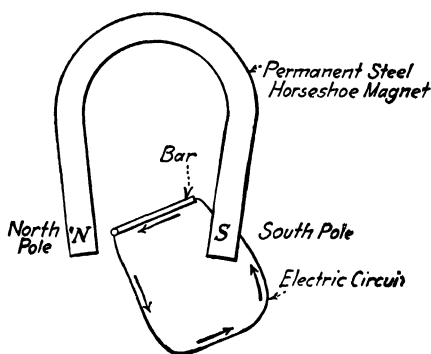
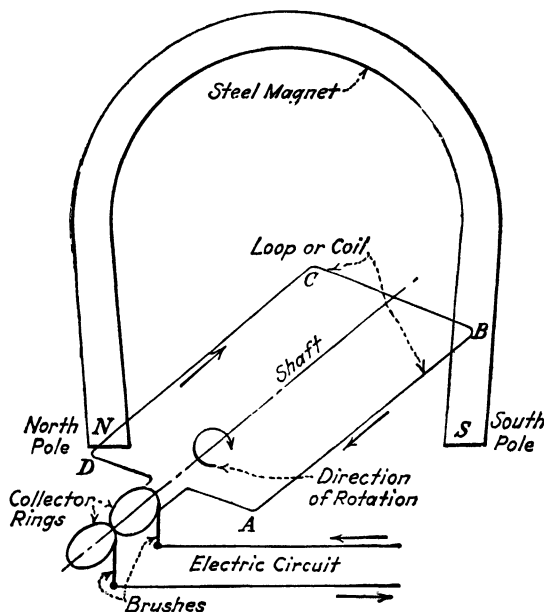

FIG. 1-31. Elements of an alternating-current generator.
FIG. 1-32. Elementary alternating-current generator.
**Elementary Type.** The simplest arrangement for generating such an alternating pressure is shown in Fig. 1-31. It consists of nothing more than a steel horseshoe magnet and a bar of copper to the ends of which is attached a wire, forming the circuit shown. When this bar is moved down between the poles of the magnet so that it passes through the magnetism at the ends of the poles, an electric pressure or voltage is generated in the wire. If the bar is now raised or moved upward so that it passes through the magnetism in the other direction, a voltage will again be generated in the wire, but this time the voltage will be in the opposite direction. Hence, to obtain an alternating voltage, all that is needed is a machine in which a wire moves through magnetism first in one direction and then in the other and arrangements for connecting this moving wire to the outside circuit. Such a device is shown in Fig. 1-32 and is called an "alternating-current generator." In this elementary alternating-current generator the wire has been bent into the form of a loop or coil so that it can be rotated continuously in one direction, instead of having to move it up and down. The two sides of the
**Elementary Type.** To obtain a direct current of electricity from the machine shown in Fig. 1-32, we simply replace the slip rings with a *commutator*. The commutator is the device which changes an alternating voltage to a direct voltage. It corresponds to the valves in the hydraulic direct-current generator. The process is called "commutation." In this simple case, the commutator consists of two bars of copper connected to the two ends of the loop or coil. These two copper bars revolve with the shaft as did the slip rings. Upon these bars rest